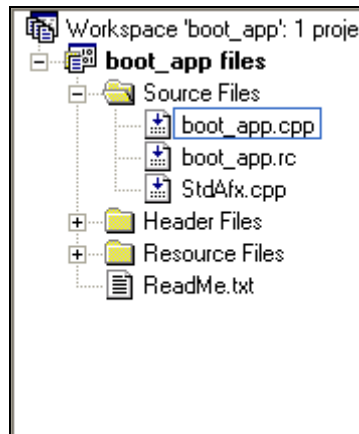

Figure 3.8: Open 'boot_app.cpp'
- Click the 'FileView' tab, located at the bottom of the workspace window. Expand the 'boot_app files' by clicking on the '+' icon, and do the same for 'Source Files'. Then open 'boot_app.cpp' by double-clicking on it. See Figure 3.8 below.